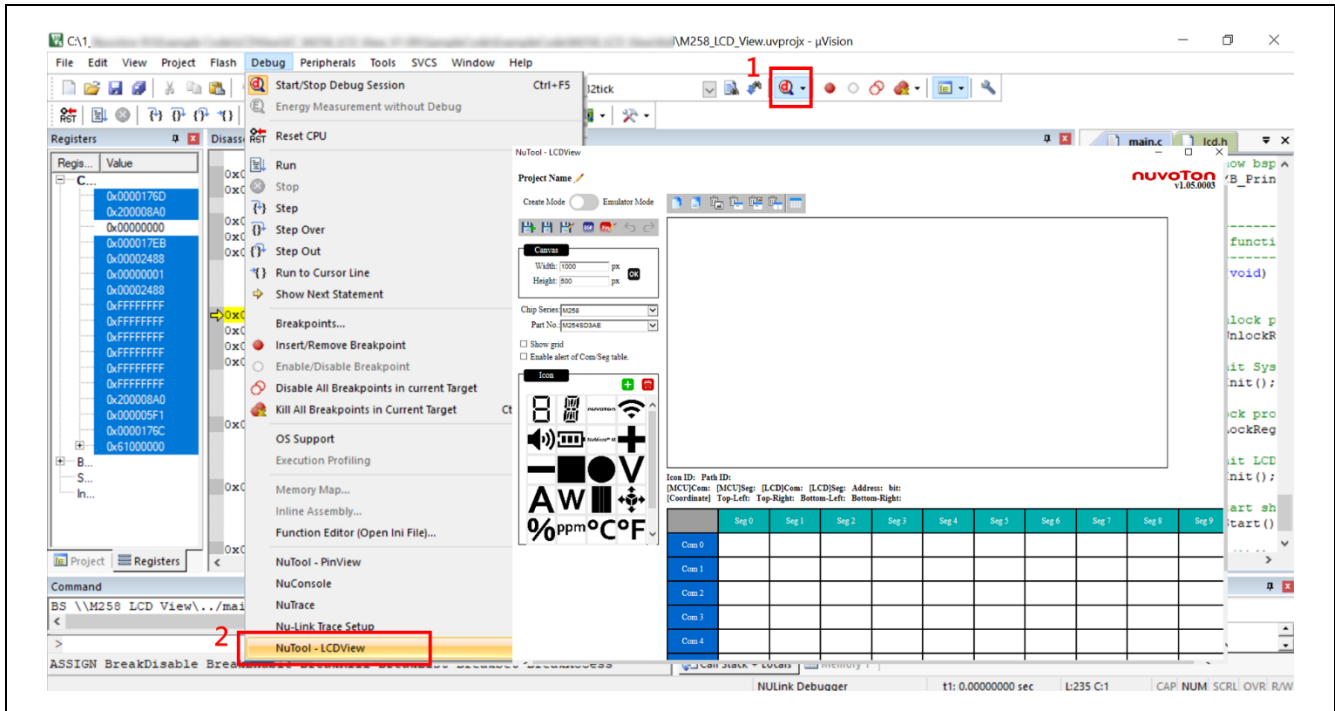

Figure 1-15 Steps for Opening LCDView in Debug Mode
2. Click the debug session icon to enter debug mode in Keil IDE, and then open LCDView according the steps are shown in Figure 1-15 Steps for Opening LCDView in Debug Mode.